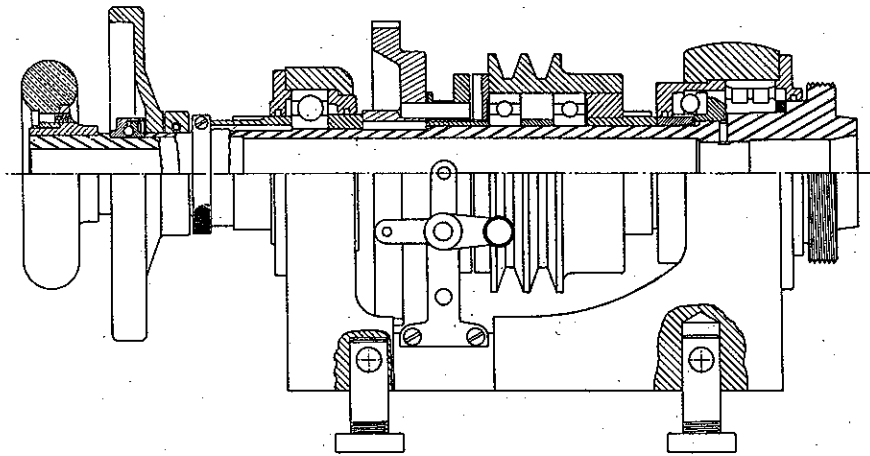

Fig. 4 Sectional View of Headstock
Two oil cups; Fig. 4 (A) at the front of the head should be checked to see they are full each time the lathe is used. These should be kept filled with oil, equivalent to Colonial Beacon "Spinesso #38", before the lathe is started. Do not add oil while lathe is running.